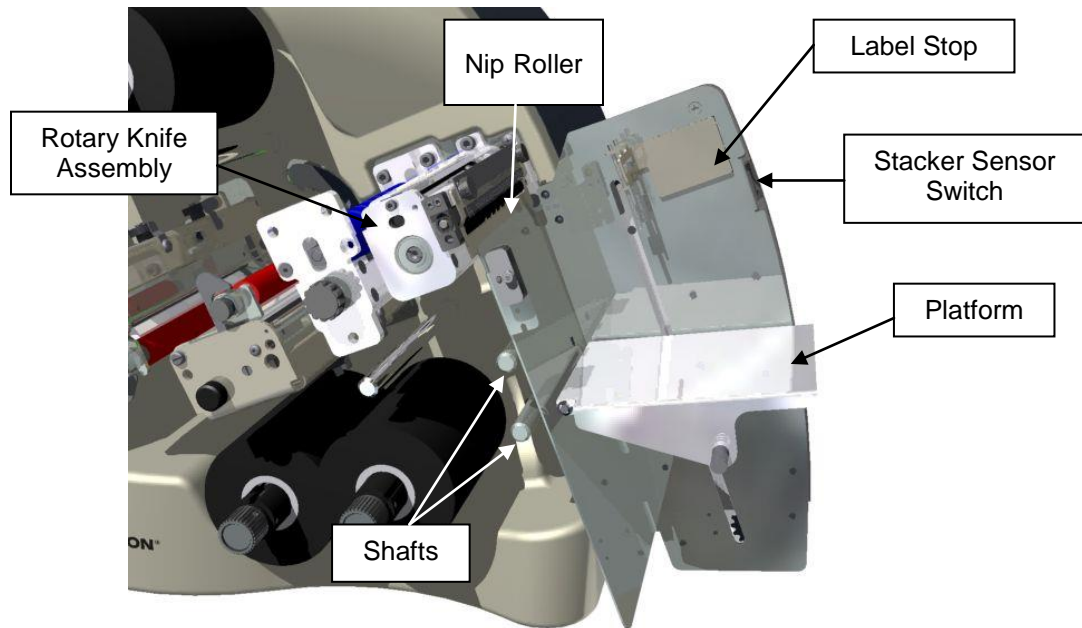

Figure 4. Rotary Knife and Stacker
1. Locate the two shafts on the printer below the Auxiliary Feed and Knife assembly (see Figure 4).